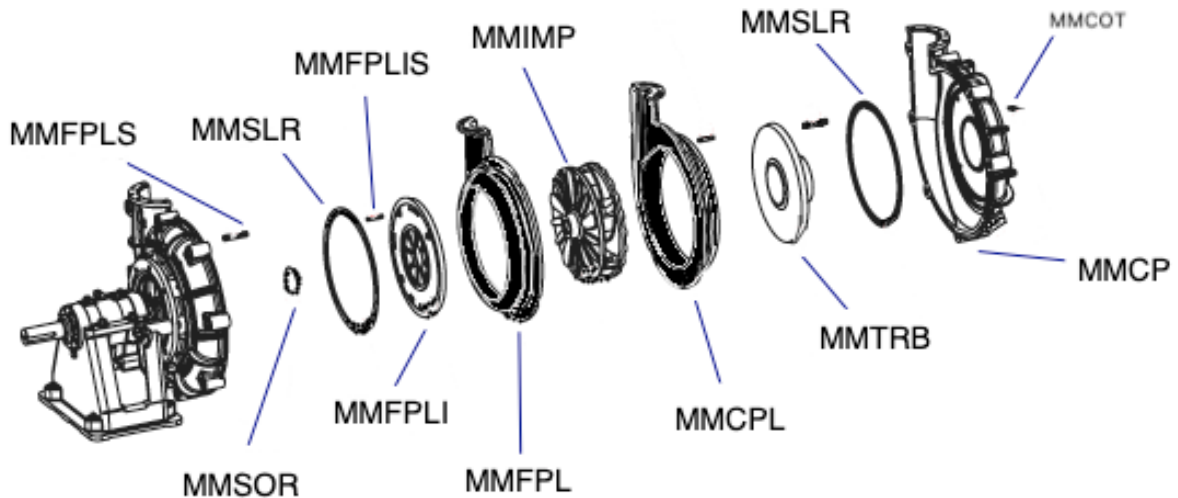

Figure 9-Assembling Four Piece Liners
5.3.2 RUBBER LINERS - FOUR PIECE – Ref Fig 9
Refer Fig.9